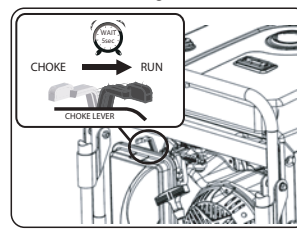

Fig 13
- Let engine run for several seconds and then gradually, as engine warms up, slide the choke lever towards the “RUN” position until the choke is fully adjusted to the “RUN” position. (See fig 13)